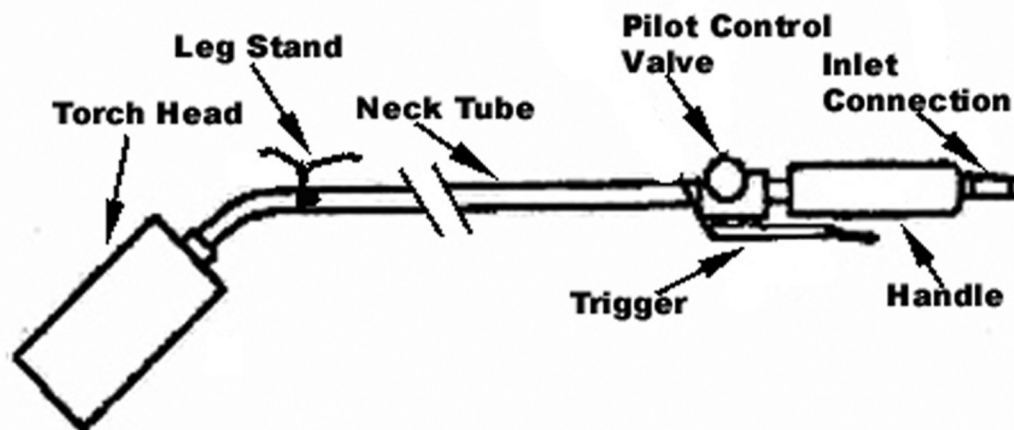

Figure 2: Basic components of a roofing torch
The torch unit should be manufactured so it does not leak under normal and continual use. It should be listed by Underwriters Laboratory (UL) Inc. Figure 2 shows the basic components of every torch. A torch should have a pilot-control valve, high-pressure valve trigger lever and an on/off control valve at the inlet connection.